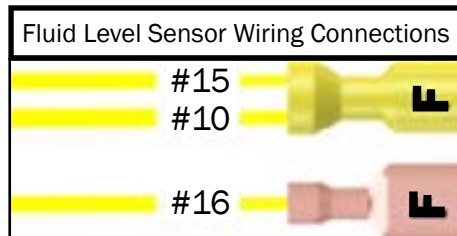

Figure 10
6. Connect these wires to wires #10, #15, and #16 on the Aqua-Hot wiring harness. Note that wires #10 and #15 will co-terminate in a single jacketed connector as shown in Figure 10.